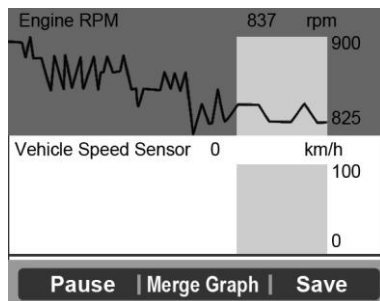

Figure 5.13
- If the “**Merge Graph**” on the bottom appears when a PID is selected to view, merged graph information is available. (Figure 5.13)